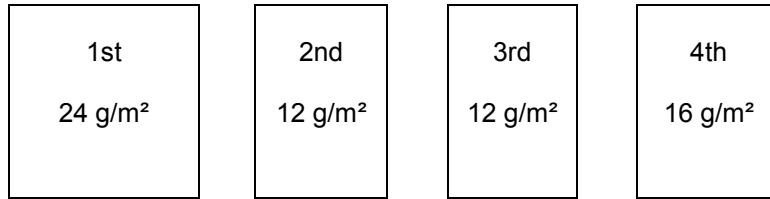

Fig. 8
- The 2nd application (12 g/m2) needs to be calculated in relationship to the first one and can be represented by the calculation  $12 \div 24 = 0.5$  or 50% (see Fig. 8).